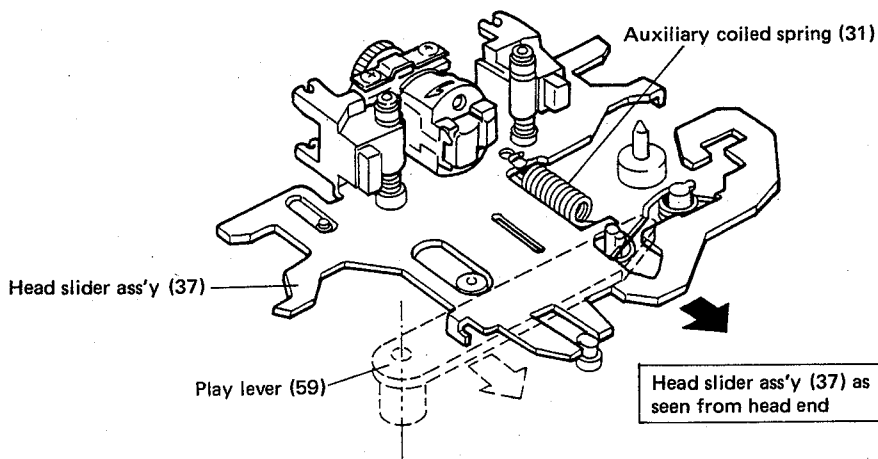

**Fig. 8**
5) In addition to the action described in 3) above, the cam lock ass'y lever (56) rotates the reverse lever (57) counterclockwise. After the voltage e1 is applied to the solenoid (L2) for the time t1, holding voltage e2 is applied. As a result, the cam lock ass'y lever (56) and reverse lever (57) are held at that position. (See Figs. 8, 14 and 15.)